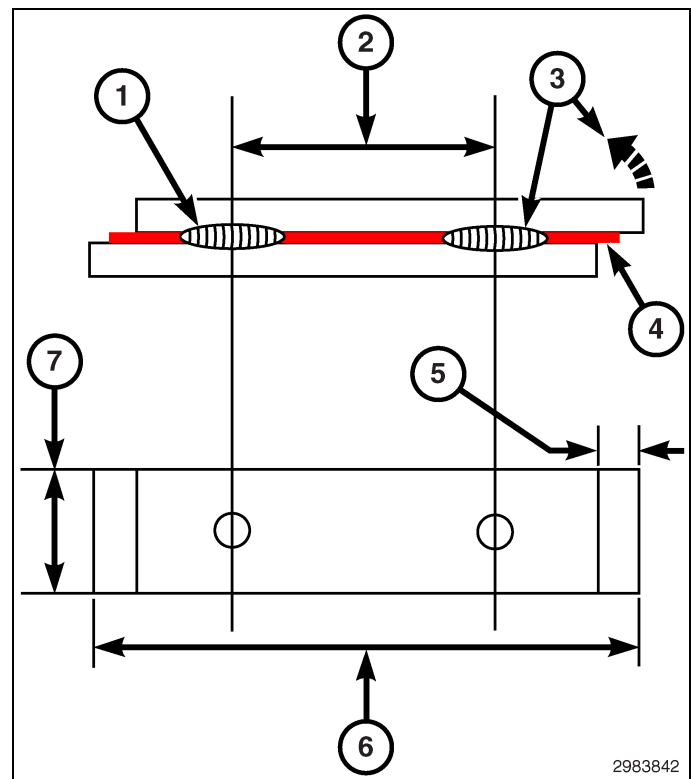

Fig. 19 Weld Coupon
3. Using the procedure outlined, (Fig. 19), prepare the test coupons.
8. As shown in (Fig. 19), place first weld at a position at least 12.5mm. (0.5 in.) away from end weld coupons. Then make the second weld. The weld spacing should be the same distance as the original welds or the closest existing weld, whichever is the least on the vehicle being repaired.